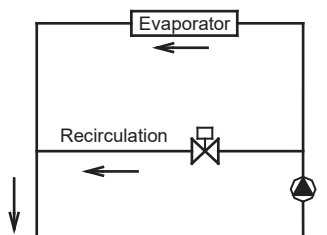

Fig. 4-3
c. The inlet pipe of the evaporator must be provided with a target flow controller, to realize flow-break protection for the unit. Both ends of the target flow controller must be supplied with horizontal straight pipe sections whose diameter is 5 times that of the inlet pipe. The target flow controller must be installed in strict accordance with "Installation & Regulation Guide for Target Flow Controller" (Figure 4.3~4.4). The wires of the target flow controller should be led to the electric cabinet through shielded cable (see Electric Controlling Schematic Diagram for details). The working pressure of the target flow controller is 1.0MPa, and its interface is 1 inch in diameter. After the pipelines are installed, the target flow controller will be set properly according to the rated water flow of the unit.